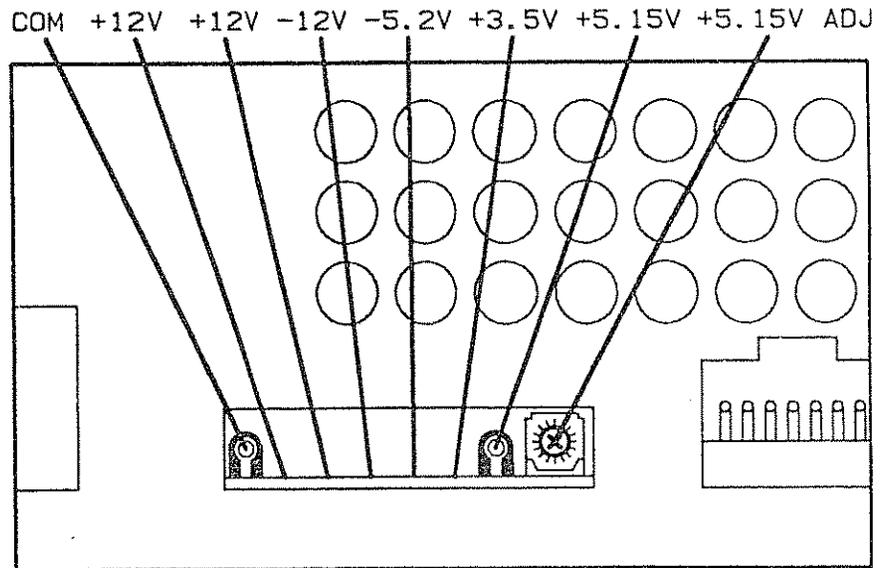

Figure 2-27. A5 Power Supply Test Points
12. Next to the position where cable W27 connects to the A5 Power Supply, measure the voltage on each pin. See figure 2-27. The voltages should be as shown in figure 2-27. If any of the voltages are wrong, go to "To Troubleshoot the Power Supply," in this chapter. If the voltages are correct, continue with the next step.